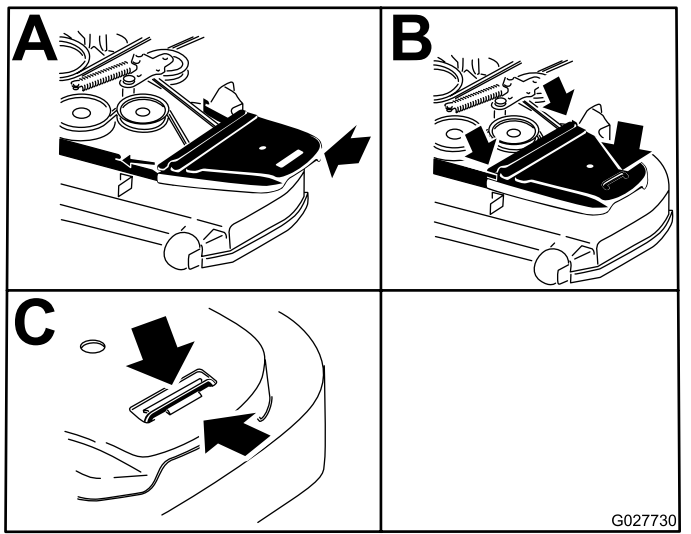

Figure 62
12. Install the belt covers (Figure 62).